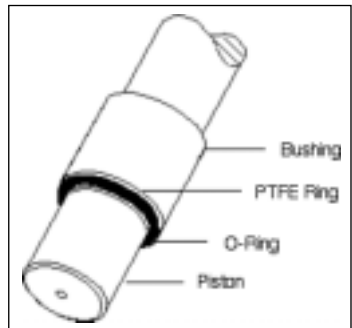

FIGURE 10-1 PISTON SEAL ASSEMBLY
4. Remove the tip ejector from the liquid end, as shown in Figure 10-1, and set it aside until you need it again.
The seal between the piston and the inside surface of the shaft is formed by a PTFE ring and a fluoroelastomer O-ring (except the 10 mL liquid end). The PTFE ring extends through the O-ring, and only the PTFE ring makes contact with the piston. This is shown in Figure 10-1. (The 10 mL piston seal assembly is shown later in this section.)
1. Make sure the PTFE seal and O-ring are properly positioned on the piston, as shown in Figure 10-1.